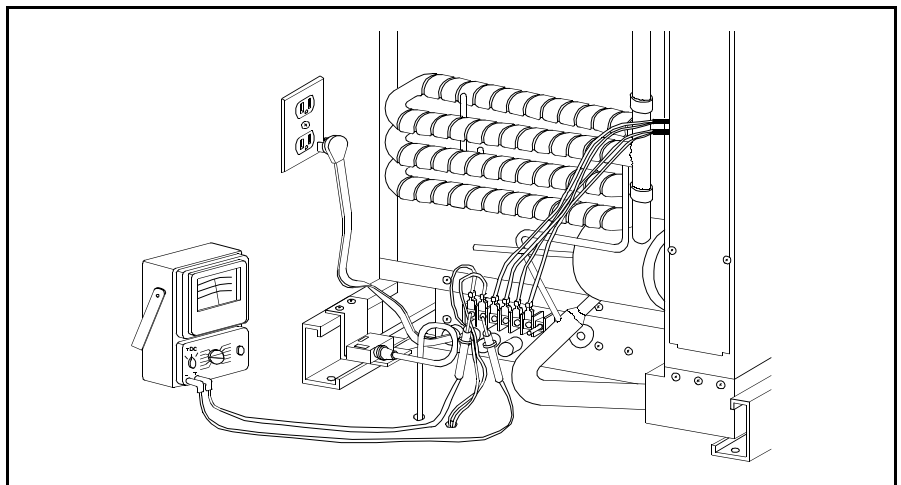

Figure 3.41 12 Volt Check at DC Supply Connections
1. Check for 12VDC between positive and negative leads at the rear of the refrigerator as shown in Figure 3.41.